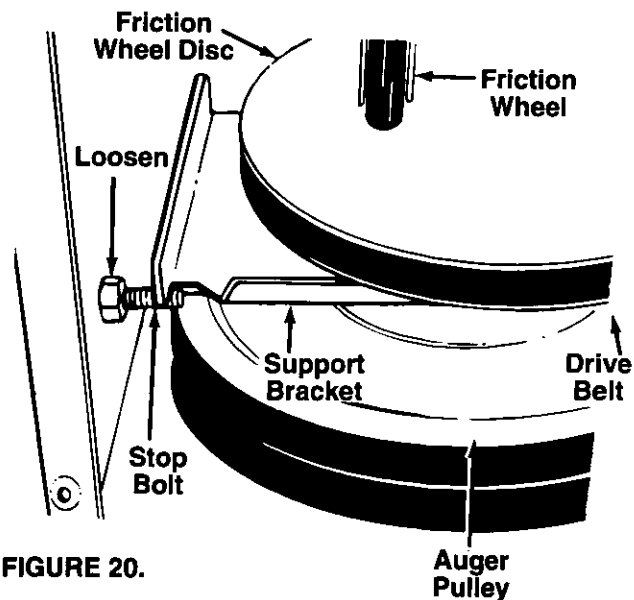

FIGURE 20.
3. Using a 7/16" wrench, loosen the nut on the stop bolt until the support bracket rests on the auger pulley. See figure 20.
4. Slip belt between friction wheel and friction wheel disc. See figure 20. Remove and replace belt. Reassemble following the instructions in reverse order.
NOTE: The support bracket must rest on the stop bolt after the new belt has been assembled. See figure 20.